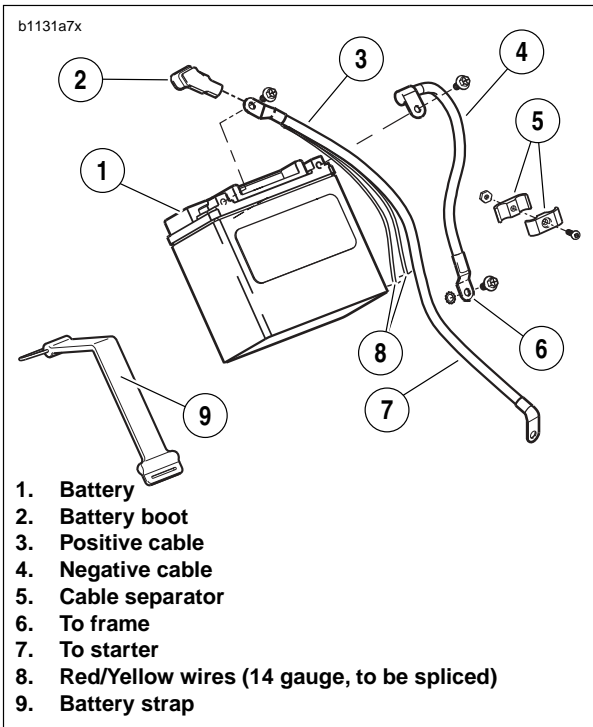

Figure 7-38. Battery
1. See Figure 7-38. Disconnect negative and positive cables from battery, negative cable first.
- a. See Figure 7-38. First, connect positive cable to starter using fastener with washer. Tighten fastener to 60-85 **in-lbs** (7-10 Nm).
- a. See Figure 7-38. Positive battery cable runs from starter to positive battery terminal.